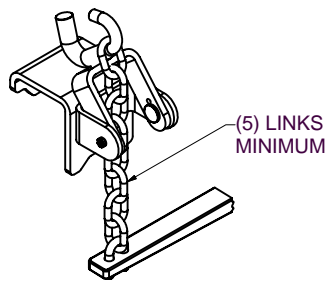

Figure 8
3. **THERE MUST BE AT LEAST 5 LINKS BETWEEN THE SNAP-UP BRACKET AND THE SPRING BAR.** This is necessary for proper operation of the spring bars during turns (See figure 8). **IF THERE WILL BE LESS THAN 5 LINKS** between the snap-up bracket and spring bar, the angle of the head assembly (1) must be increased. The trailer must be uncoupled and the upper bolt removed from the head assembly. The head assembly is then pivoted down and an additional washer is added underneath the pin (See figure 4). Reassemble.